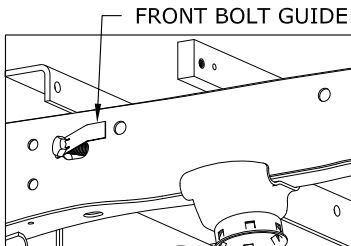
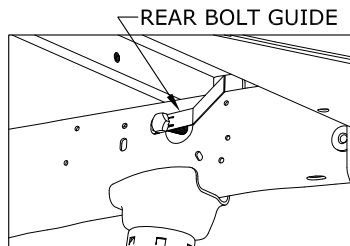

FIGURE C3: View from outside of Driver Side Frame, Bolt installation Step. 1
FIGURE C6: View from inside of Driver Side Frame, Bolt installation Step. 1
2. **Install the bolt guides.** Insert the front bolt guides (shorter ones) into the frame and guide the threaded end of the bolts out the holes as shown in figures C3 to C5. Insert the rear bolt guides through the large holes on the inside of the frame rails and guide the threaded end of the bolts out of the holes in the frame as shown in figures C6 TO C8.